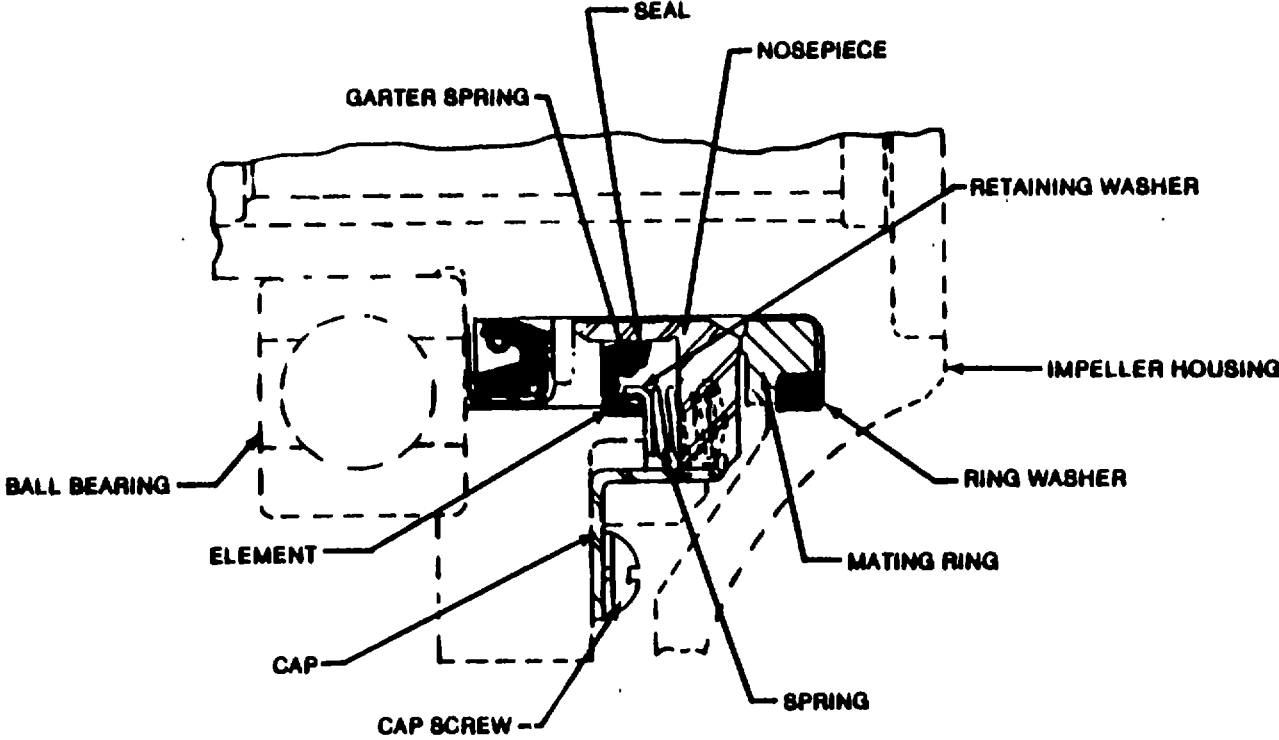

Figure 6-35. Seal Carrier Assembly.
- (1) Remove turbine wheel bearing retainer and remove turbine wheel lock nut and lock washer.
- (2) Press turbine wheel and shaft out of converter housing through turbine wheel bearing.
- (3) Remove six socket head capscrews retaining seal carrier (Figure 6-35) to converter housing and remove seal assembly. Seal carrier may be removed from converter housing by tapping on the opposite side of turbine wheel bearing outer race.
- (4) Remove turbine wheel bearing.
i. Refer to Figure 6-35 and disassemble fluid seal assemblies as follows:
- (1) Remove two screws and clips retaining steel nose piece to seal carrier and remove nose piece.
- (2) Remove eight coil springs and retaining washer and rubber element with garter spring.
- (3) Remove lip-type grease and oil seal.
c. Refer to Figure 6-35 and assembly fluid seal assemblies as follows:
- (1) Install impeller bearing in clutch housing.
- (2) Refer to Figure 6-35 and build up impeller seal assembly in same manner as turbine seal assembly.
- (3) Place seal gasket in end plate and install seal assembly. Soak this gasket briefly in clean converter fluid (diesel fuel) before installing. Be sure holes line up properly with seal drain passage in seal carrier and end plate.
- (4) Check for proper position of carbon mating ring and washer in impeller.
- (5) Press impeller into clutch housing through impeller bearing. Install impeller spacer, lockwasher and locknut. Tighten locknut securely and lock in place.
- (6) Install input shaft bearing in sliding sleeve carrier.
- (7) Press input shaft into input shaft bearing.
- (8) Install carrier gasket and install sliding sleeve carrier with input shaft.